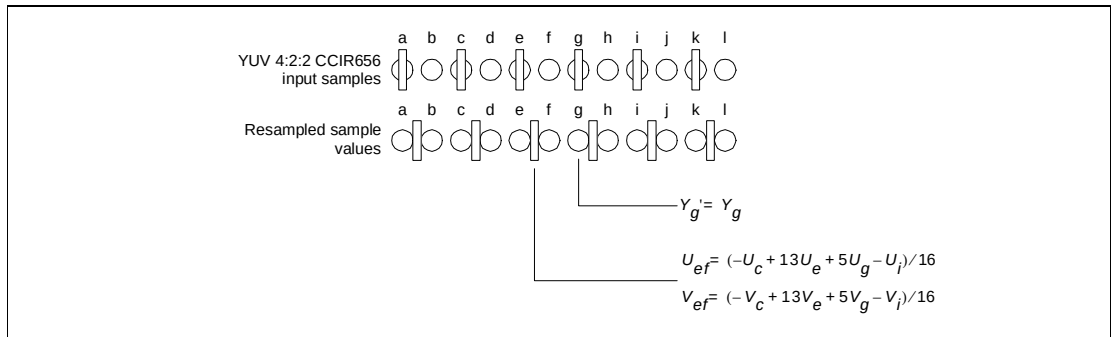

Figure 6-6. Chrominance re-sampling to achieve interspersed sampling.
**VI\_CTL.SC=1: 'Interspersed sampling'** serves to generate a sampling structure in memory where chrominance samples are spatially midway between luminance samples, as shown in Figure 6-6. This 'interspersed' format is suitable for use in MPEG-1 encoding.
The VI hardware applies a  $(-1 \ 13 \ 5 \ -1)/16$  filter as illustrated in Figure 6-6 to the chrominance samples before writing them to memory. This filter computes chrominance values at sample points midway between luminance samples1. Computed video data is clamped to